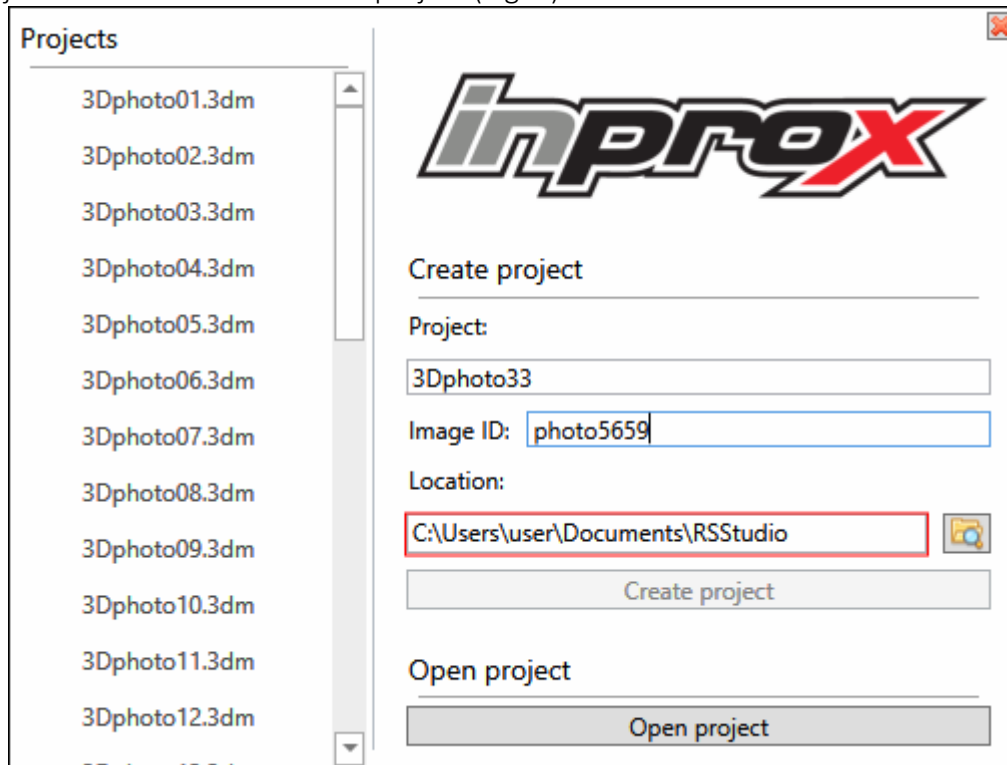

Figure 4.
4. In the dialog box, name the new project, choose the project folder and press “New Project” button to create a new project (Fig. 4).